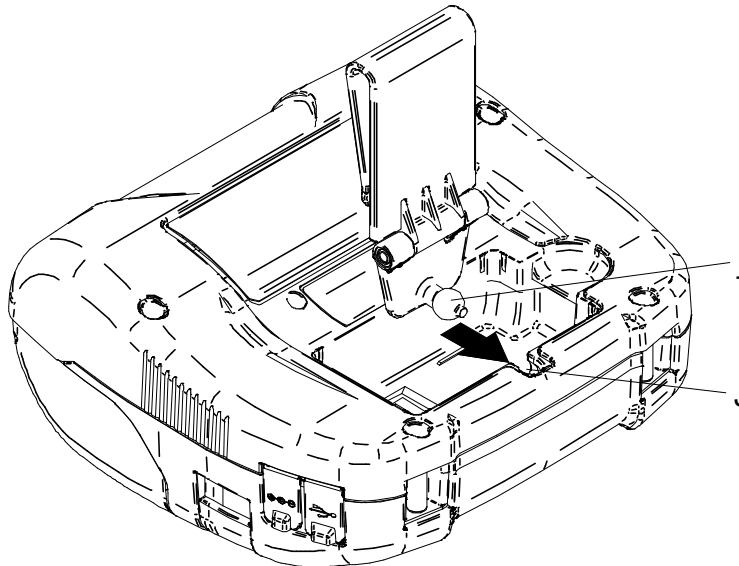

Figure 14-1 Belt Clip Installation (1)
- (3) Insert the part "j" of the belt clip into the hole "J" of the printer in the direction of the arrow as shown in Figure 14-1.